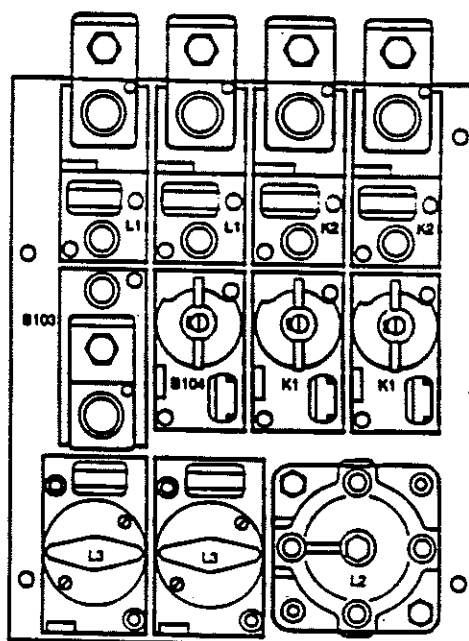

fig.8
2.2.3.1 Panel de auxiliares (fig.8)